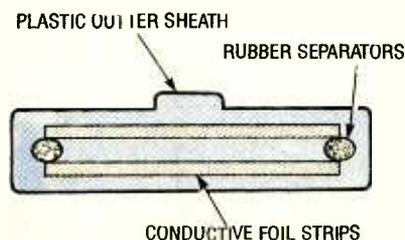

Fig. 2. This is a cross-sectional diagram of a flex switch. They can be used as pushbuttons or even position sensors.
**Flex Switches.** A flex switch, as shown in Fig. 2, can be used to sense touch or strain. The switch can be actuated by pressing on it with a certain amount of force, or bending it.